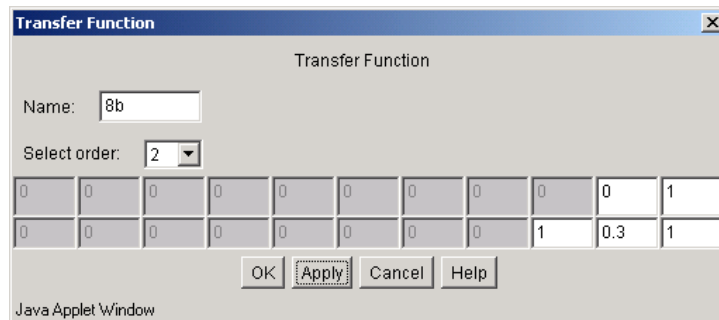

Figure 2: **Transfer Function** block's dialog box
Step 2: Double-click on the **Transfer Function** block to open its dialog and set the order to 2. Enter the transfer function coefficients as shown in figure 2. Press the [OK] button in order to set the new transfer function to the part and close the dialog window.